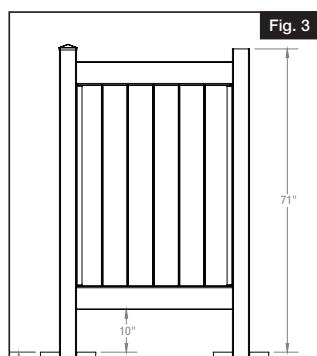

Fig. 3
- Vinyl posts should be buried 25" into ground. Use a 6" gravel base under posts. Insert all posts and double-check measurements, locations, and orientation. Note locations of end posts which only have routing cutouts on one side (Fig. 3).
- Top of vinyl post should be 71" above ground. Do not concrete or backfill posts until walls are assembled and level (Fig. 3).
- Le haut du poteau en vinyle doit se trouver à 71 po (180,3 cm) au-dessus du sol. Ne pas bétonner ou remblayer les poteaux avant que les murs ne soient assemblés et de niveau (Fig. 3).
- La parte superior del poste de vinilo debe estar a 71" (180 cm) del suelo. No coloque concreto ni rellene los postes hasta que las paredes estén ensambladas y niveladas (Fig. 3).